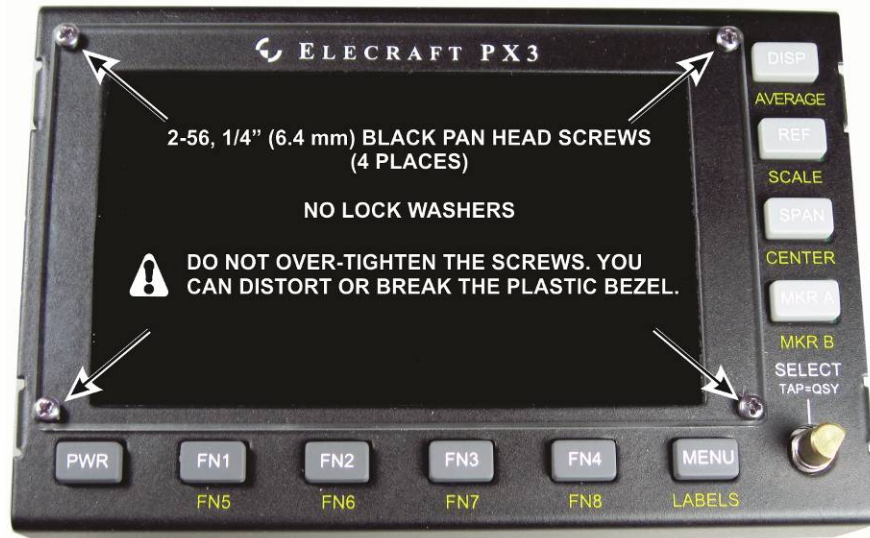
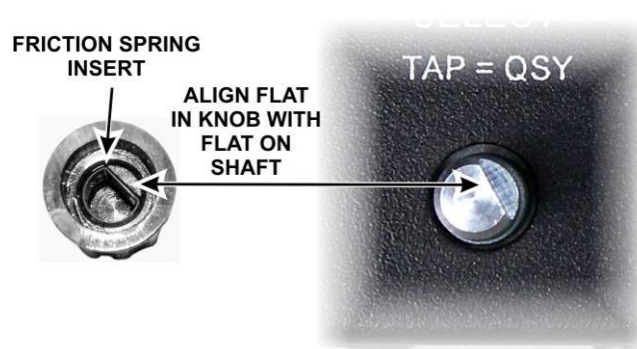

Figure 32. PC Board and Bezel Mounted on Front Panel.
Figure 33. Installing the Knob.
□ Hold the front panel board face up so the LCD does not become dislodged and place the front panel sheet metal and bezel over it as shown in Figure 32. Insert the front panel board from the back of the sheet metal, angling it as needed to fit past the narrow part of the panel. Place the bezel on top of the front panel sheet metal and secure it as shown, threading the screws through the bezel, top cover and into the standoffs you installed earlier on the front panel board. Do not use lock washers. **Do not over-tighten the screws. You can distort or break the bezel.**
□ Check to ensure the knob has its spring insert in place, then press it onto the shaft. Be sure the flat on the shaft is aligned with the flat surface in the knob (see Figure 33). The control has a built-in switch so do not be surprised to hear a click when you press the knob onto the shaft. The knob will stand above the surface of the front panel to allow room for the knob to move when operating the switch. Also, some side-to-side movement of the knob is normal in a control of this type with a built in switch.
**⚠ If the connectors do not line up with the holes as shown, be sure you mounted the plastic bezel on the outside of the front panel as shown in Figure 32 on page 53.**
To remove the front panel board and gain access to the LCD, remove the knob (see Figure 33 on page 53) and the four screws on the plastic bezel (Figure 32). That will free both the front panel board assembly and the plastic bezel. Take care not to scratch the bezel or lose the screws. You will need to tilt the front panel board assembly to remove it from the front panel sheet metal.